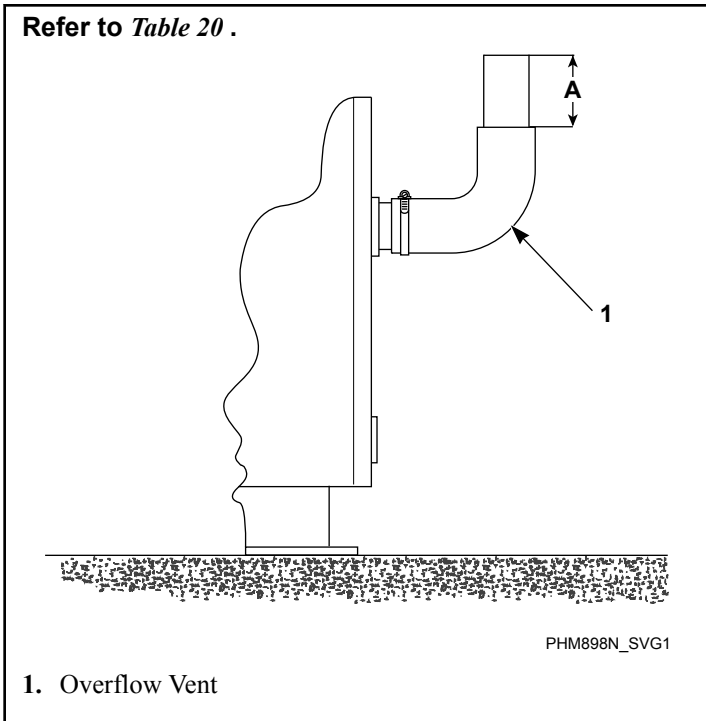

Figure 20
2. To build an extension to the overflow vent, secure a section of drain pipe to the vent, facing upward, that extends no higher than the recommended height above the edge of the vent elbow. Refer to *Figure 20* and *Table 20*.